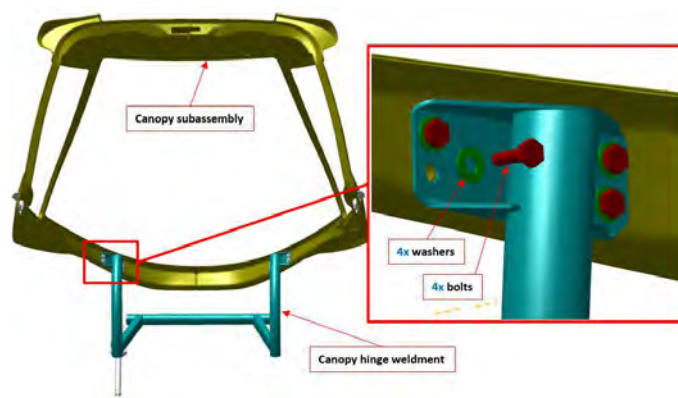

FIGURE 12-1
1. With the canopy raised and supported, use a wrench to remove the eight AN4C6A bolts and 91950A029 washers that secure the ICA005811 canopy hinge weldment to the canopy frame. The bolts are threaded into blind nutplates. See Figure 12-1.